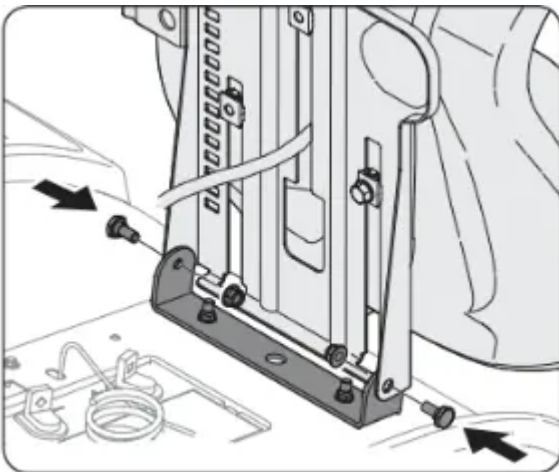

Figure 3
- Rotate the seat into position and secure the seat into place with the previously removed shoulder screws and flange lock nuts. Be careful not to crimp or damage the wire harness while installing the seat. See Figure 3.